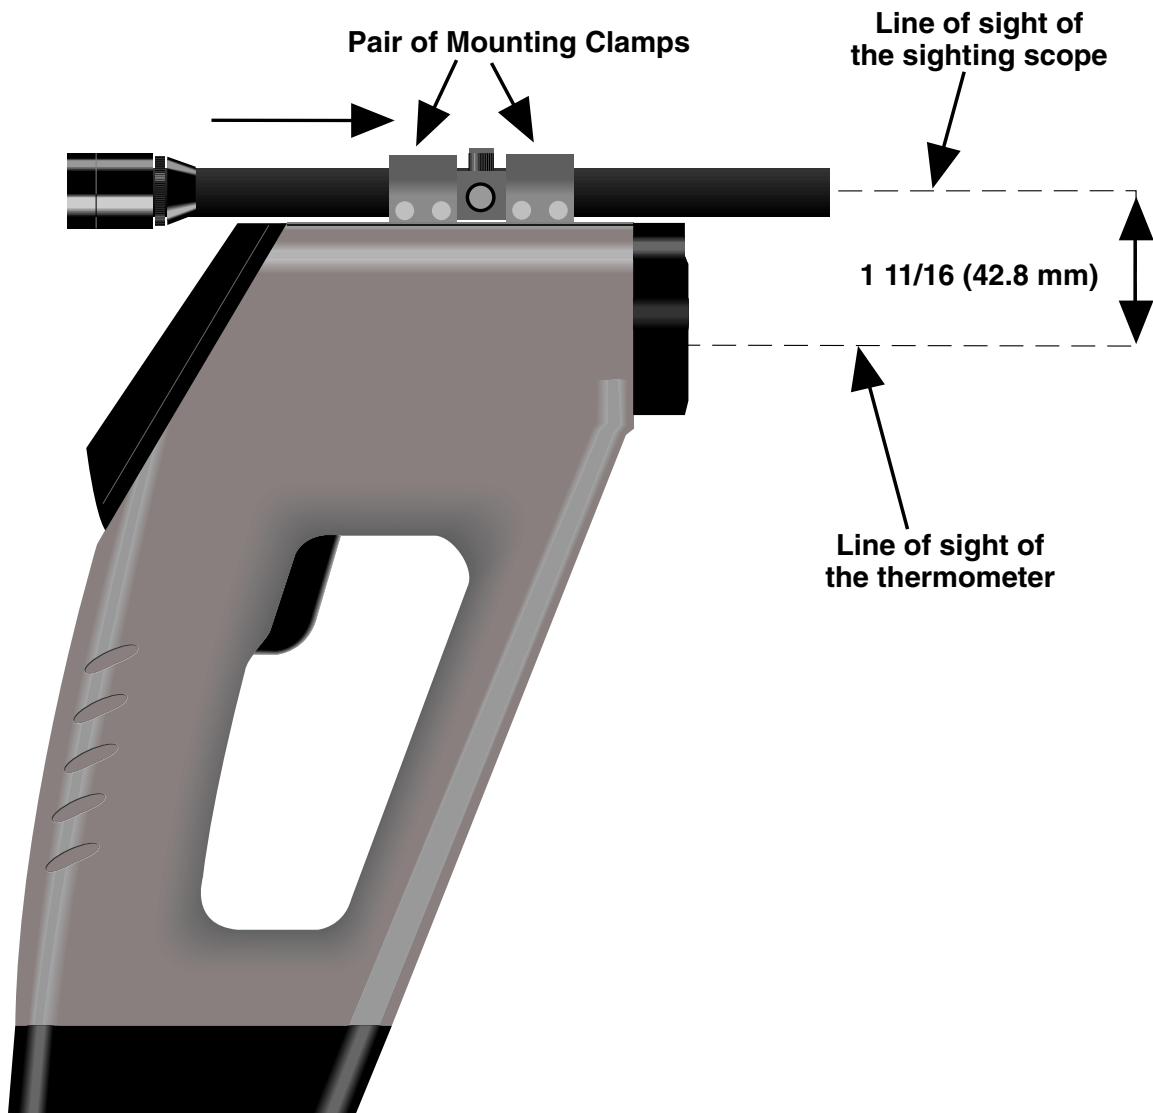

Figure 4-1. Installing the Sighting Scope
3. Slide the pair of mounting clamps over the "V" groove of the thermometer from back to front as shown in FIG 4-1. DO NOT remove the protective label from the laser sight power contacts.
Since the sighting scope mounts on top of the thermometer, the line of sight of the thermometer does not coincide with that of the sighting scope, as shown in Fig. 4-1. The distance between the two lines of sight ( $1\frac{1}{16}$ " ) becomes less critical compared to the target size when measuring distant targets (50 feet and longer).